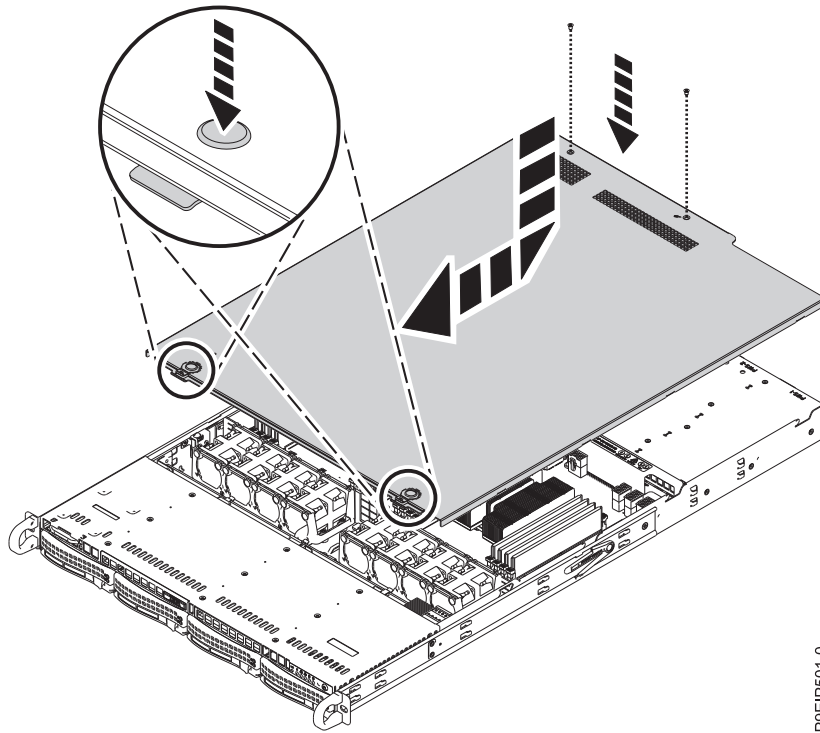

Figure 71. Replacing and securing the cover
2. Slide the cover forwards until it latches into place as shown in Figure 71.